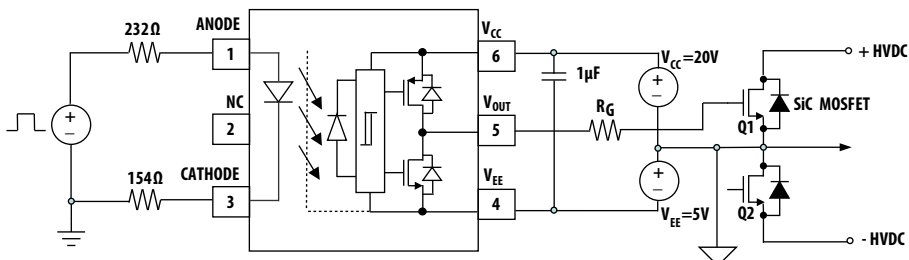

Figure 14. Recommended application circuit with split resistors LED drive.
The recommended application circuit shown in Figure 14 illustrates a typical gate drive implementation using the ACPL-P347/W347.
Step 1: Calculate RG minimum from the IOL peak specification. The SiC/GaN MOSFET and RG in Figure 14 can be analyzed as a simple RC circuit with a voltage supplied by ACPL-P347/W347.
The ACPL-P347/W347 includes a Propagation Delay Difference (PDD) specification intended to help designers minimize “dead time” in their power inverter designs. Dead time is the time period during which both the high and low side power transistors (Q1 and Q2 in Figure 14) are off. Any overlap in Q1 and Q2 conduction will result in large currents flowing through the power devices between the high and low voltage motor rails.